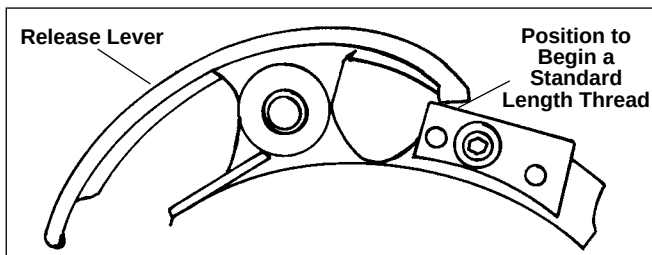

Figure 22 – Positions of Release Lever and Lockout Plate to Begin Standard Length Thread
6. Push release lever so that it rests on top of lockout plate and begin a normal thread with carriage handwheel. (Figure 22)